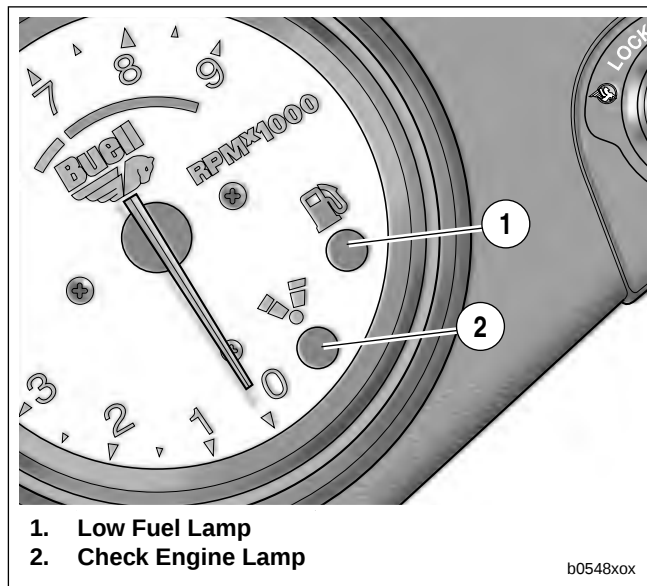

Figure 4-2. Check Engine Lamp
See Figure 4-2. The check engine lamp (2) indicates the ECM has determined a fault condition exists. There may also be starting or performance problems.